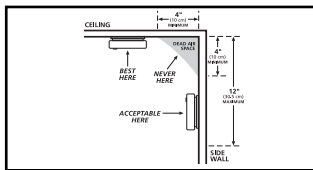

FIGURE 1
- When mounting an alarm on the ceiling, locate it at a minimum of 4" (10 cm) from the side wall (see Figure 1).
- When mounting the alarm on the wall, use an inside wall with the top edge of the alarm at a minimum of 4" (10 cm) and a maximum of 12" (30.5 cm) below the ceiling (see Figure 1).
Modern mobile homes have been designed and built to be energy efficient. Install smoke alarms as recommended above (refer to RECOMMENDED LOCATIONS and Figures 1 and 2).
In older mobile homes that are not well insulated compared to present standards, extreme heat or cold can be transferred from the outside to the inside through poorly insulated walls and roof. This may create a thermal barrier which can prevent the smoke from reaching an alarm mounted on the ceiling. In such units, install the smoke alarm on an inside wall with the top edge of the alarm at a minimum of 4" (10 cm) and a maximum of 12" (30.5 cm) below the ceiling (see Figure 1).